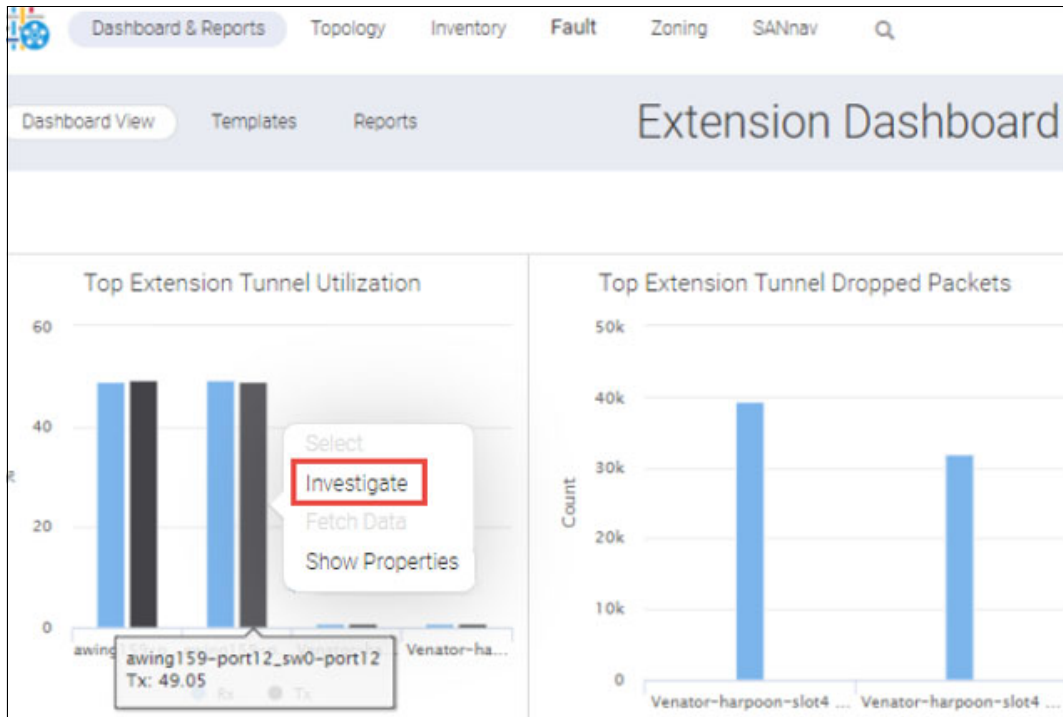

Figure 9-23 Tunnel or circuit utilization
3. If you want to examine tunnel or circuit utilization, click a bar in one of the utilization widgets, and then select **Investigate** from the list (Figure 9-23).